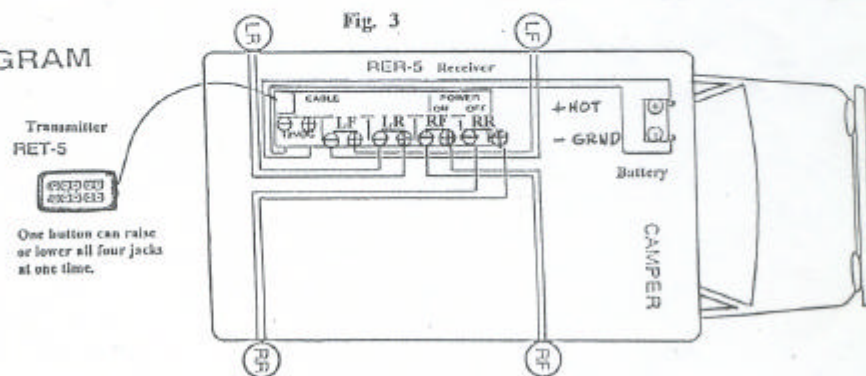

Fig. 5
11. Open the "C" clamp for each rear jack, and fit them over the jackpost for attaching to the lower 5" bracket. Place the clamp flanges on each side of the mounting bracket, inserting a bolt and washer into the "C" clamp & bracket holes, then add a washer and nut. Tighten loosely. Fig. 5.